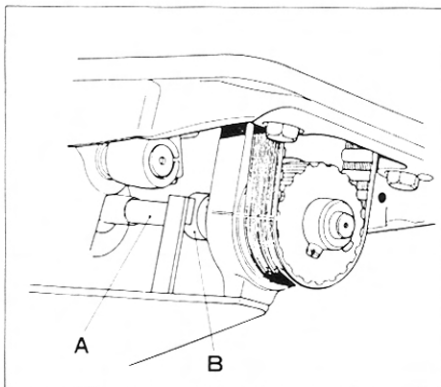

Figure 12
6. Thread Monitor (Figures 12, 13 and 14)